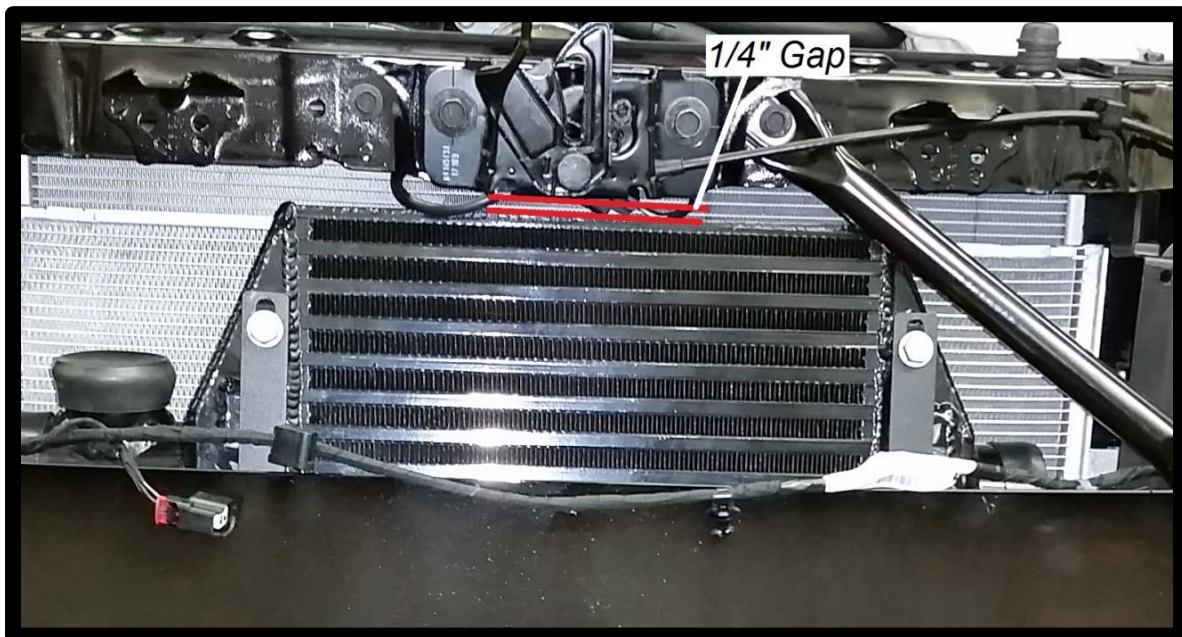

Figure 36: Intercooler Height
3. Once the upper and lower brackets are loosely installed, set the height of the intercooler, the top of the intercooler should be just slightly below the hood latch, about $\frac{1}{4}$ " as shown in Figure 36 below. Once the height is set lightly tighten the upper brackets followed by the lower brackets. These bolts will be final torque after the brackets are secured to the vehicle.